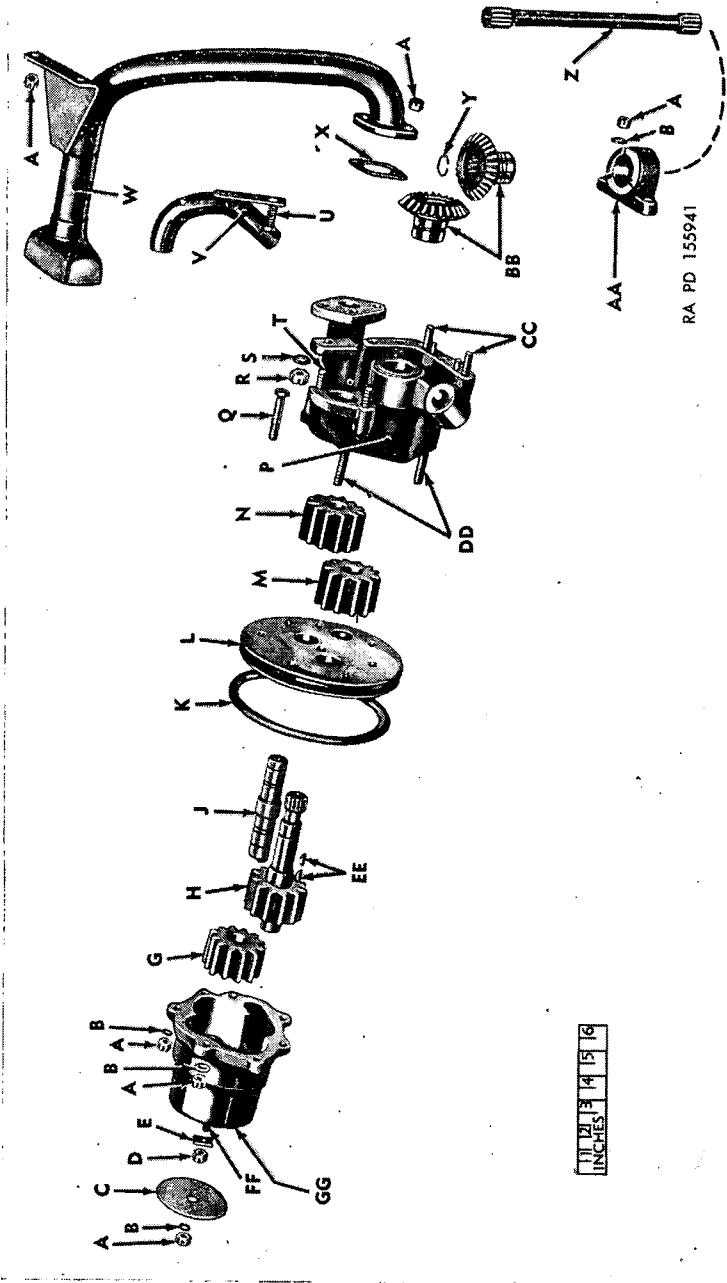

Figure 71. Scavenger and pressure oil pump and lines—exploded view.
c. *Assembly* (fig. 71).
- (1) Install the pressure pump driven impeller (G) on the impeller driven shaft (J) from the milled-locking face end. Insert the shaft in the bearing of the pressure pump housing (F), and secure it with locking plate (E), slotted nut, and locking wire. Lubricate all gears, shafts, and bearings with engine oil.
- (2) Install the pressure pump screen assembly (C) on the drilled stud in the bottom of the pressure pump housing (F). Secure with plain washer, slotted nut, and locking wire.
- (3) Install the pressure pump drive impeller with shaft (H) in the pressure pump housing.
- (4) Install "O" ring gasket (K) on the separator plate (L) and install the separator plate assembly over the shafts, matching the dowel pins with the proper dowel holes in the pressure pump housing.
- (5) Insert the Woodruff keys (EE) in the pressure pump drive impeller with shaft (H) and slip on the scavenger pump drive impeller (M). Install the scavenger pump driven impeller (N) on the impeller driven shaft (J).
- (6) Assemble the scavenger pump housing (P) to the separator plate assembly (L) and pressure pump housing (F), and secure with drilled bolts, plain washers, slotted nuts, and locking wire.
- (7) Install the drive and driven (2) bevel gear (BB) in the bearing in the scavenger pump housing assembly (P).
- (8) Assemble the drive and driven (2) bevel gear (BB) in